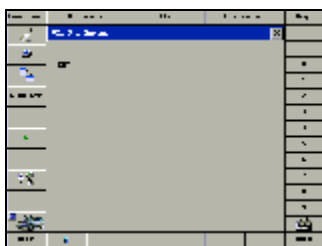

Fig.3.32
4. Select engine model **E87** (see Fig.3.32).